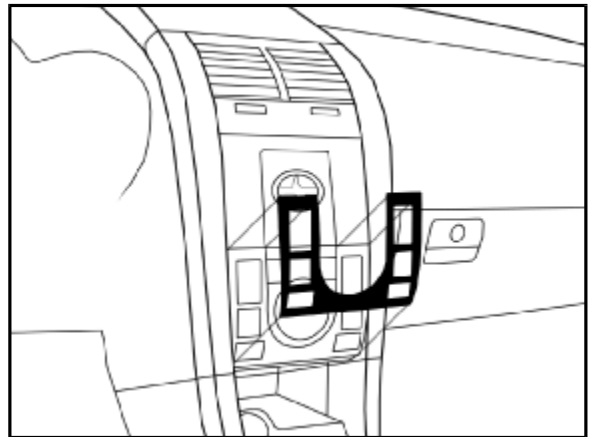

Fig. K1
- ⚠ A. Align part uniformly to edge of factory components. Edge of appliqué should be flush to edge of factory component, ±1.0mm. (Fig. K1).